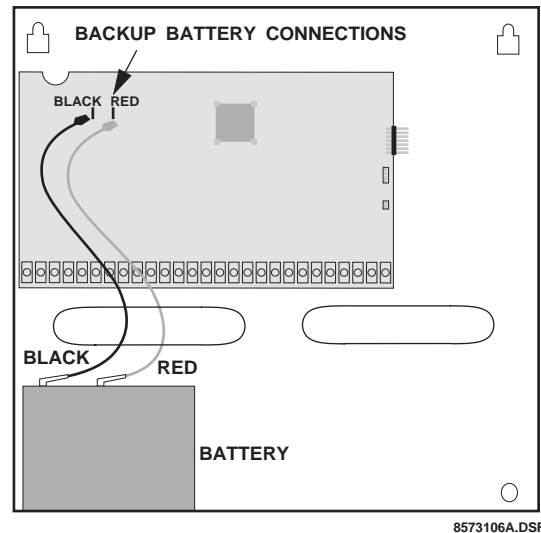

Figure 32. Connecting the Backup Battery to the Panel
1. Connect the red and black battery leads (included with panel) to the lugs located in the upper-left area of the panel circuit board (see Figure 32).